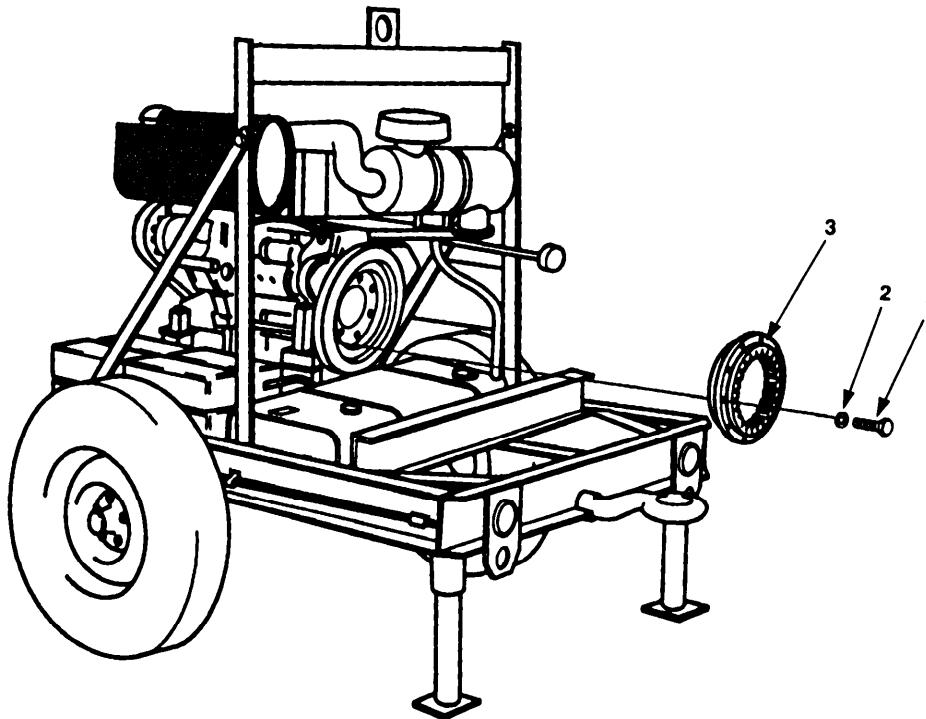

Figure 5-15. Coupling Flange Maintenance.
- a. Remove ten bolts (figure 5-15, 1) and lockwashers (2).
- b. Remove coupling flange (3).